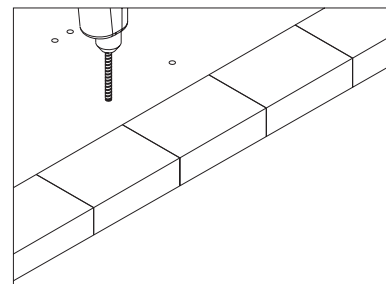

Fig 6: Drill four holes
- 6 Using the Hammer Drill and 5/8 Masonry Drill Bit, drill the four 5/8" diameter holes 2.00" deep. Make sure the Drill is square to the deck and drill straight down, Fig. 6. Use the Shop Vac to remove additional dust from holes and surrounding areas.